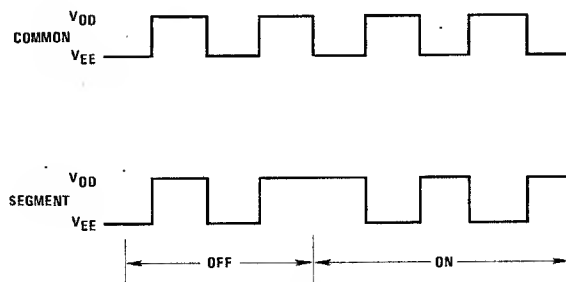

FIGURE 8. Common and Segment Output Signals
**Segment Outputs:** The Segment outputs are designed to drive field-effect liquid crystal displays. Each display segment has its own output which furnishes the proper 32 Hz drive signal. By definition, the segment is "OFF" when its drive signal is in phase with the display backplane signal (BP/32 Hz). The segment is "ON" when its drive signal is 180° out of phase with the display backplane signal. Typical output waveforms are shown in Figure 8.